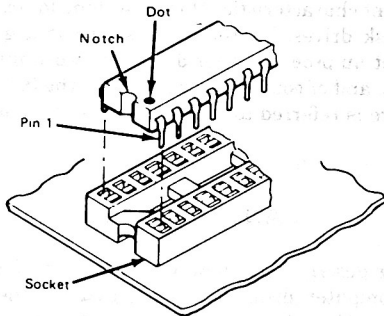

Figure 2-1
2. Be sure that the IC is the right way round, with pin 1 at the end of the socket with a notch (Figure 2-1).